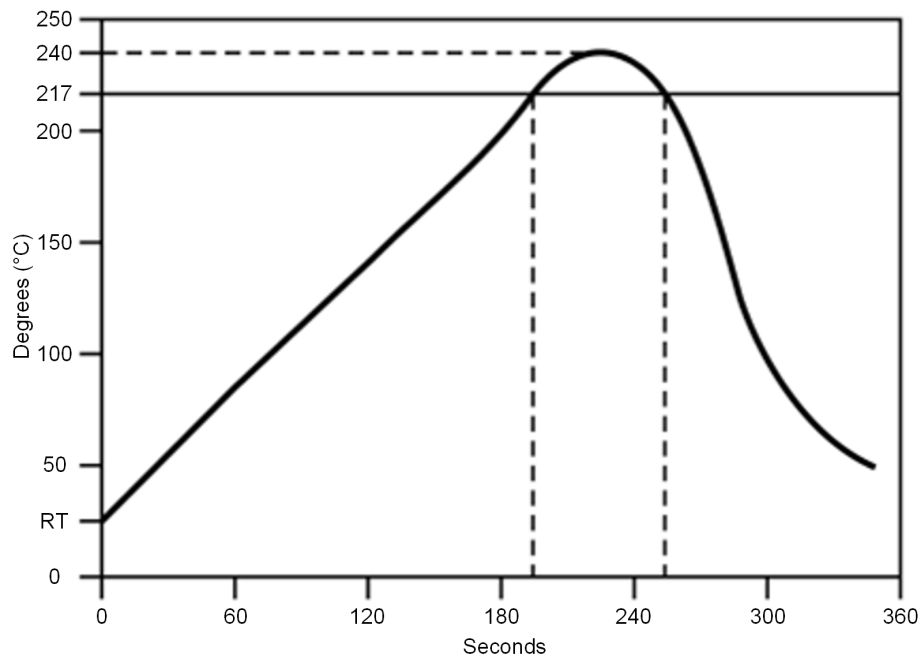

Figure 8-1. Temperature Profile for Evaluation of Solder Heat Resistance of a Component (at Solder Joint)
- Temperature measurement: Thermocouple d = 0.1 mm to 0.2 mm CA (K) or CC (T) at soldering portion or equivalent method
- Allowable reflow soldering times: 2 times based on the reflow soldering profile (see Figure 8-1)
- Temperature profile: Reflow soldering will be done according to the temperature profile (see Figure 8-1)